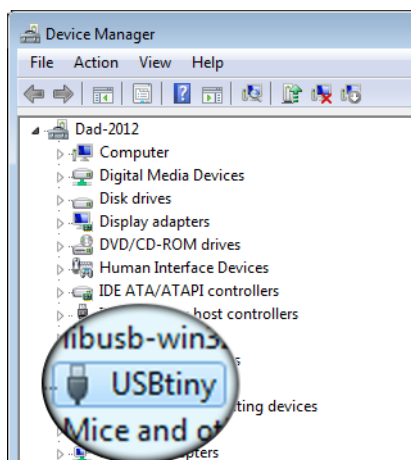

Figure 2-5. Finding the driver in the Device Manager
4. A new category should appear in the list: *libusb-win32 devices*. Under this you should see the entry *USBtiny*, as shown in Figure 2-5.